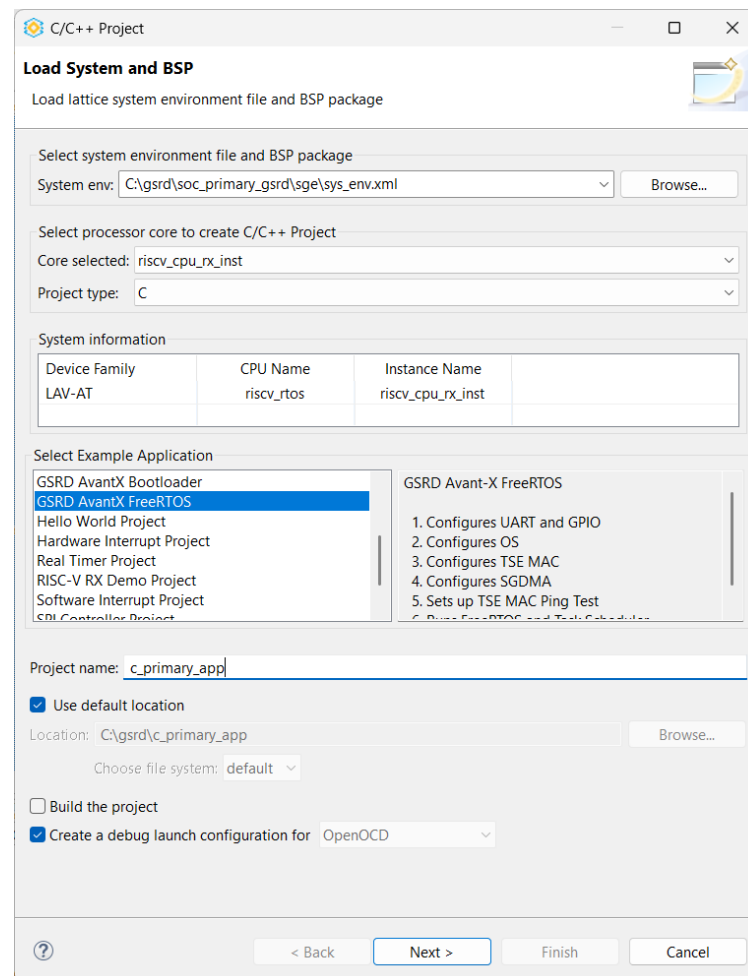

Figure 7.35. FreeRTOS C/C++ Selection
2. In the *Select Example Application*, select the **GSRD AvantX FreeRTOS** project. Provide the project name as shown in Figure 7.35.